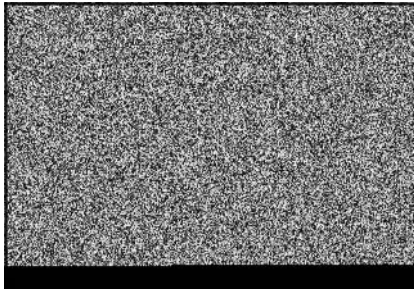

Figure 21
1. Slip pinion (A, Figure 21) on motor shaft.